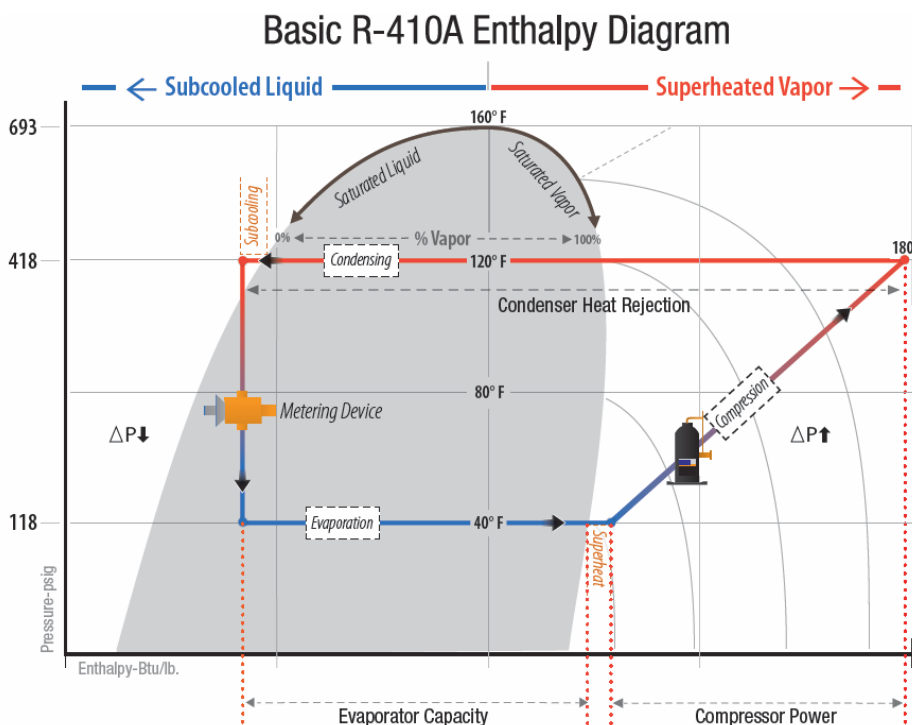

Figure 4 - Basic R-410A Pressure-Enthalpy Diagram
- **State 3** is a low pressure, low temperature liquid. The thermostatic expansion valve must be fed sub-cooled liquid to operate properly, so high pressure, high temperature sub-cooled liquid enters the TXV and a low pressure, low temperature liquid-vapor mixture exits the TXV. Notice the TXV outlet in **Figure 4** is in the two phase region of the pressure-enthalpy diagram.